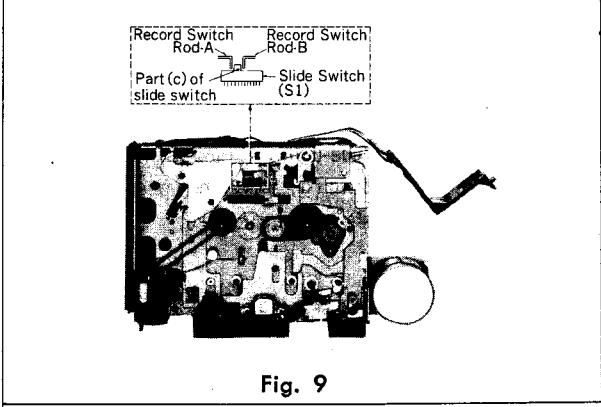

Fig. 9
- \* When mounting the printed circuit board on the mechanism unit, check that the part (c) of slide switch (S1) between the record switch rods A (M35) and B (M36) is properly positioned, as shown in fig. 9.